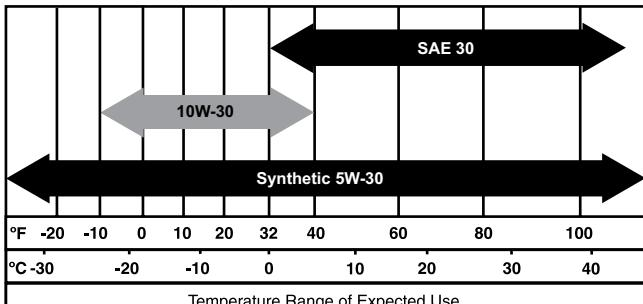

Figure 4-1. Recommended Oil Based on Temperature
7. Refill the engine with the proper recommended oil. For recommended oil, see Figure 4-1.